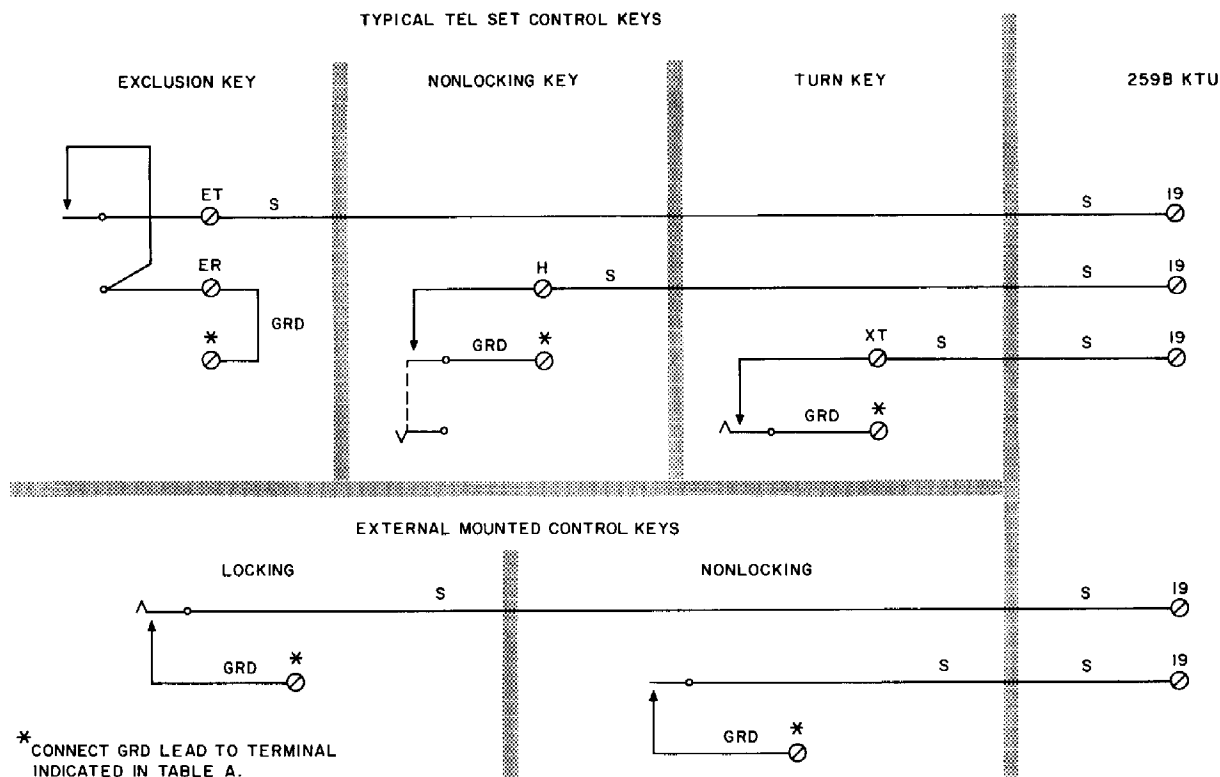

Fig. 1 — Typical Connections For Various Control Keys
4.01 Table A and Fig. 1 show various types of key connections required to control the exclusion circuit.